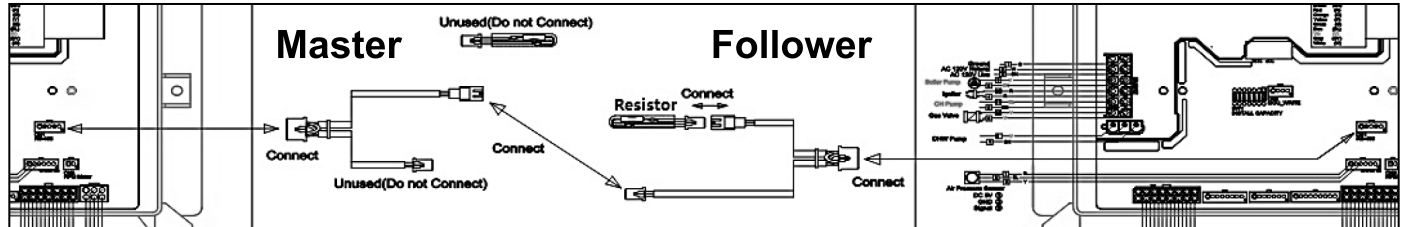

Figure 34 - Cascade Wiring Example
1. Connect the five pin connectors of the cascade communication cables to the control board of every unit. See Figures 34 and 35.